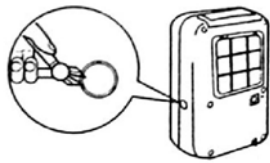

Fig. 4
1. Remove the drainage tank and open the continuous drainage port. Use snippers or a similar tool to cut away the continuous drainage cap in the side of the main unit. (see Fig. 4)